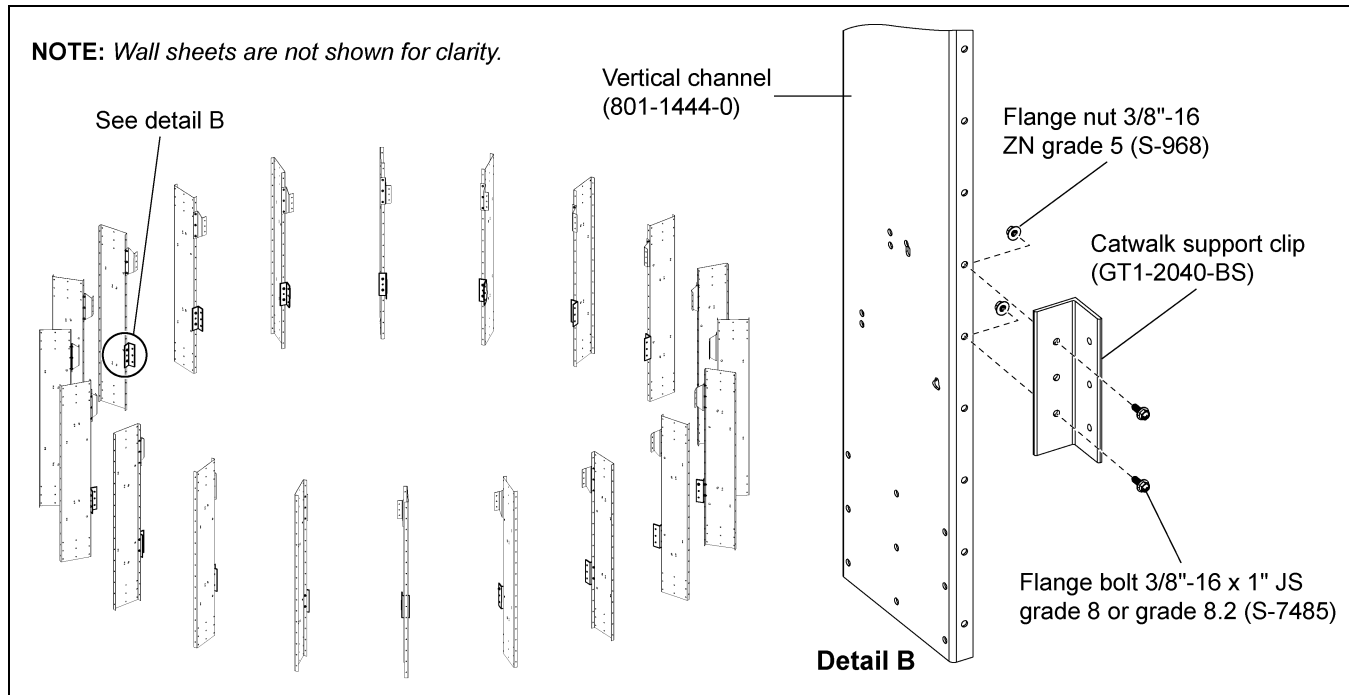

Figure 5B
1. Install catwalk support clips (GT1-2040-BS) to vertical channels (801-1444-0). Support clip can be installed on each vertical channel as the inner wall sheets are installed using 3/8"-16 x 1" JS grade 8 or grade 8.2 bolts (S-7485) and 3/8"-16 ZN grade 5 nuts (S-968). (See Figure 5B.)